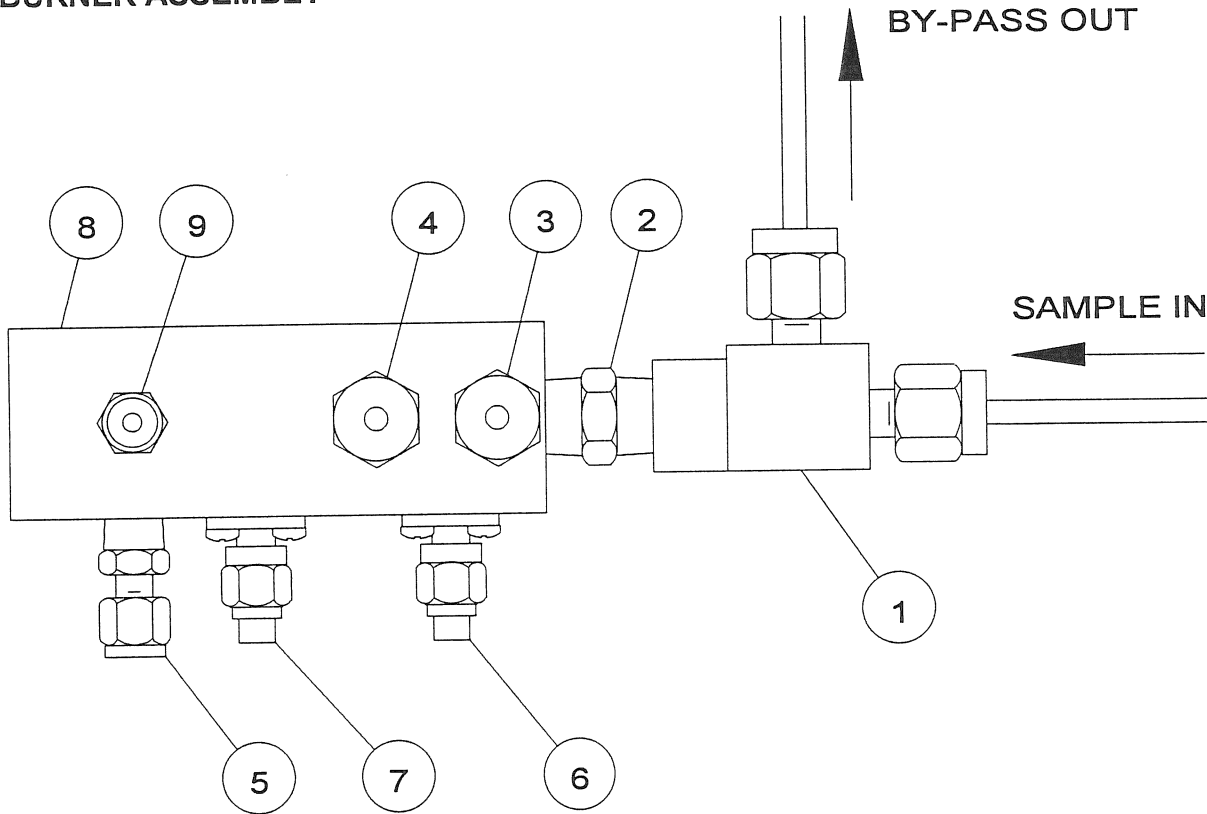

Figure 8 Burner Assembly
3. **Burner Air Inlet:** For feeding hydrocarbon free air to the burner. See Figure 8. Threaded ¼ Inch Tube.
4. **Fuel Inlet:** For feeding fuel to the burner. See Figure 8. Threaded ¼ Inch Tube.
BURNER ASSEMBLY (Figure 8.)